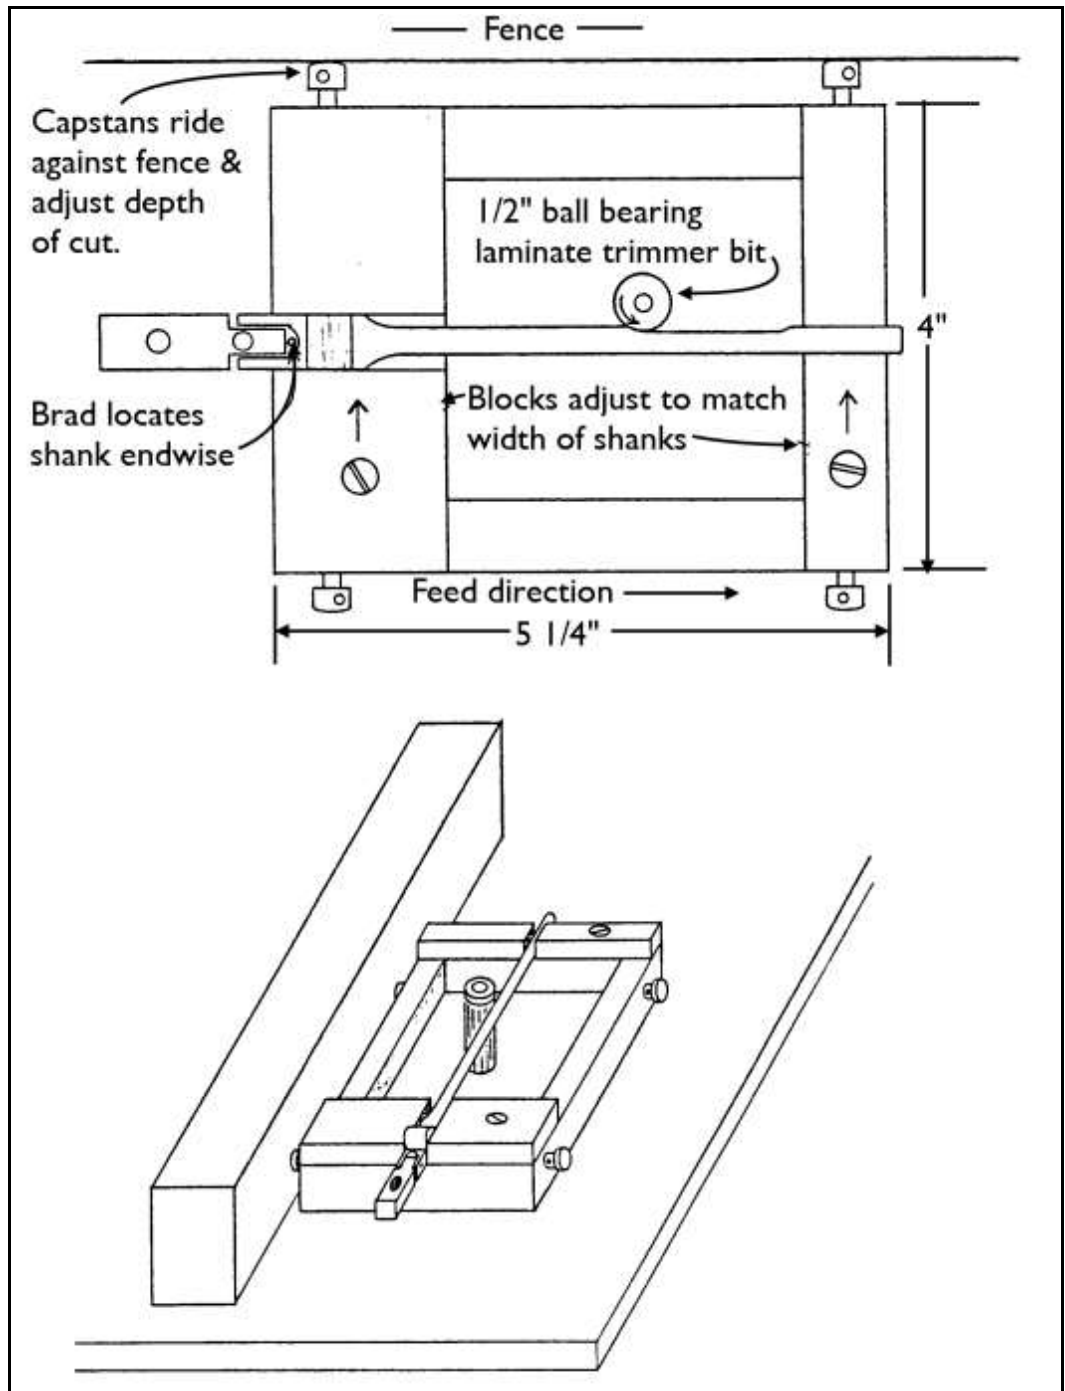

Figure 9: Router table jig for thinning treble shanks
2. **Thinning treble shanks:** Thinned treble shanks can improve tone by reducing the woody collision sound of hammer impact. If your set does not have thinned treble shanks, you can machine them yourself with a table-mounted router and the home made jig in Figure 9.